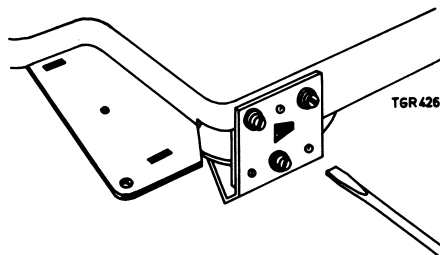

Fig. 1
- Loosen the three screws by means of which the lower bearing bracket of the flywheel is fitted to the mounting plate, see Fig. 1.
**Note :** When fitting the lower bearing bracket 67 of the flywheel, make sure that the cord groove of the flywheel 66 and that of the winding friction 63 are aligned. The height of the flywheel can be adjusted as shown in Fig.1, by means of a screwdriver via the triangular opening in bearing bracket 67.
- Loosen the three screws by means of which the lower bearing bracket of the flywheel is fitted to the mounting plate. See Fig. 1.
After the flywheel bearing has been fitted, the cord groove of the flywheel and that of the winding friction must be aligned. The height of the flywheel can be adjusted as shown in Fig. 1 by means of a screwdriver via the triangular opening in bearing bracket 67.